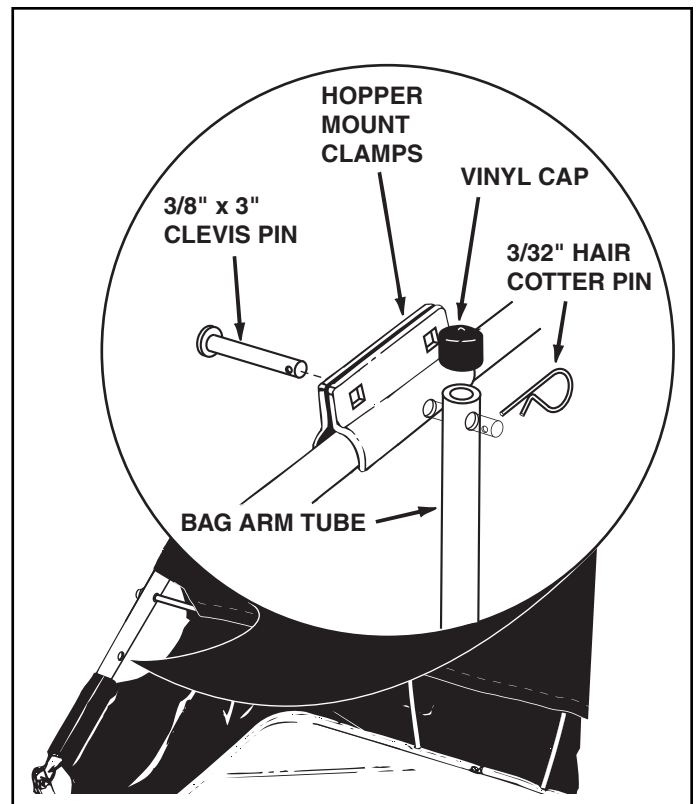

FIGURE 18
- Align two hopper mount clamps with the **lower hole** in each upper hopper tube. Insert a 3/8" x 3" clevis pin through the clamps and the upper hopper tube. Assemble a bag arm tube onto the clevis pin and secure it with a 3/32" hair cotter pin. See figure 18.
- Assemble a vinyl cap onto each bag arm tube as shown in figure 18.